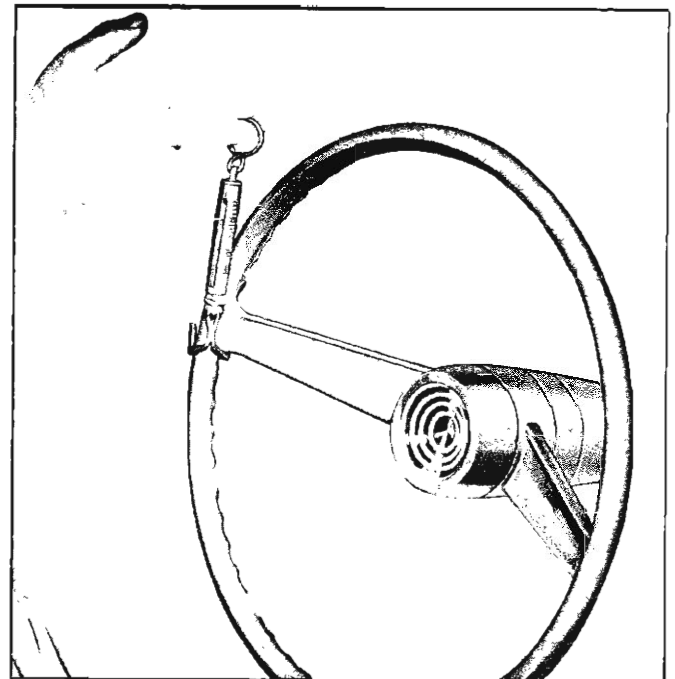

Fig. 5—Checking Adjustment with J-0554
3. Using Tool J-0544 (fig. 5) measure pull at rim of wheel which is required to keep wheel in motion. This should be between  $\frac{3}{8}$  and  $\frac{5}{8}$  pounds.